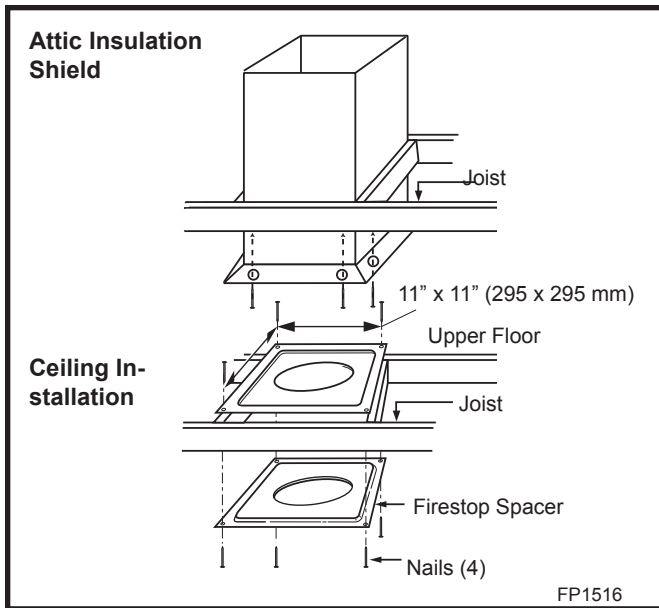

Fig. 24 Place firestop spacer(s) and secure.
6. Place firestop(s) #7DVFS or Attic Insulation Shield #7DVAIS into position and secure. (Fig. 24)